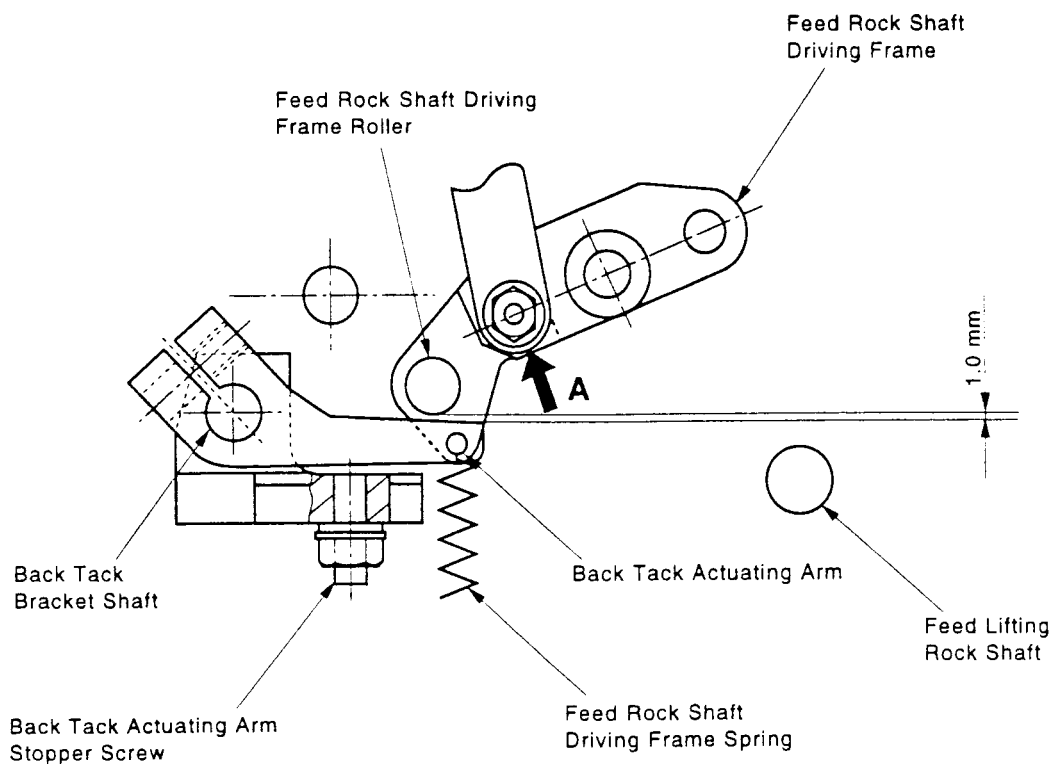

Fig.65
1. Set back tack bracket so that the back tack bracket shaft will be parallel with feed lifting rock shaft.(Fig.65)
2. Adjust back tack actuating arm stopper screw so that clearance between feed rock shaft driving frame roller and back tack actuating arm is 1.0mm when machine is set for maximum stitch length (4.2mm). (Fig. 65)
The feed rock shaft driving frame spring tension should be set so that the force required to actuate the feed rock shaft driving frame when applied to point A and the feed regulator set at 4.2mm would be approximately 1kg. (Fig. 65)